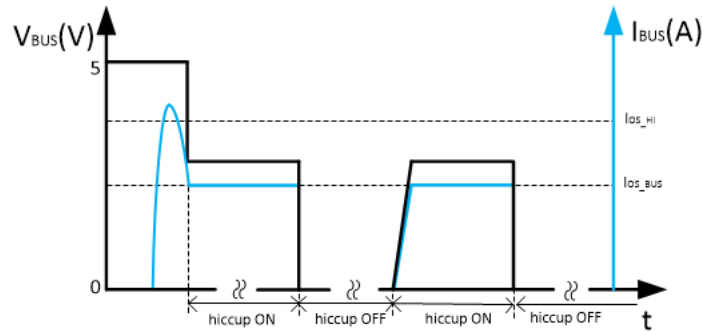

Figure 10-7. BUS Overcurrent Protection: Two-Level Current Limit
- The third condition is the load current increases above the I_{OS_HI} setting. In this case, the USB power switch current limit threshold is set back to the primary current limit, I_{OS_BUS} , immediately. If the load still demands a current greater than I_{OS_BUS} , the USB output voltage decreases to $I_{OS_BUS} \times R_{LOAD}$ for a resistive load, which is shown in Figure 10-7. If the overcurrent limit condition lasts longer than 4.1 ms, the corresponding USB channel enters hiccup mode with 524 ms of off-time and 4.1 ms of on-time. Another USB channel still works normally.